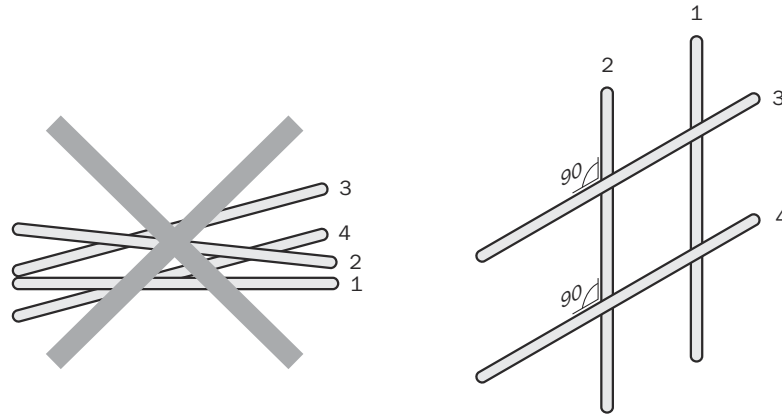

Figure 25: Cross cables at right angles
- ▶ Cables in groups 1, 2 and 3, 4 must be crossed at right angles (see figure 25).